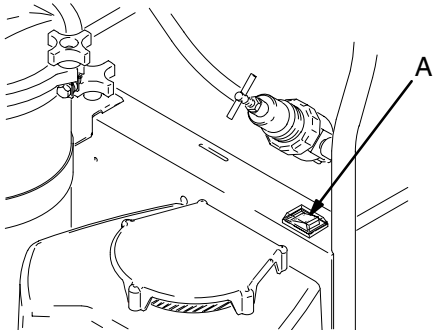

Fig. 3
2. Turn ON/OFF switch (A) ON. Run system for 15 minutes. Turn the switch OFF. See Fig. 3.